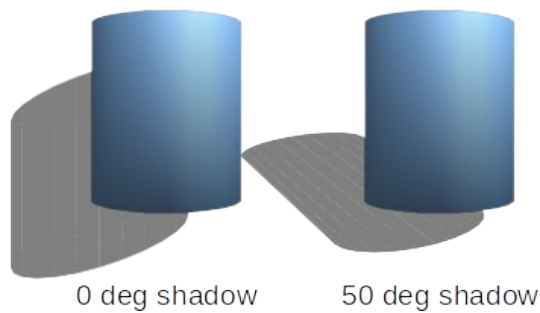

Figure 21: Examples of shadow surface angle
- **Shadow** – adds or removes a shadow from a selected 3D object (Figure 21). A shadow is generated only from the first light source. Enter a *Surface Angle* from the light source to the surface between 0 to 90 degrees to cast a shadow.